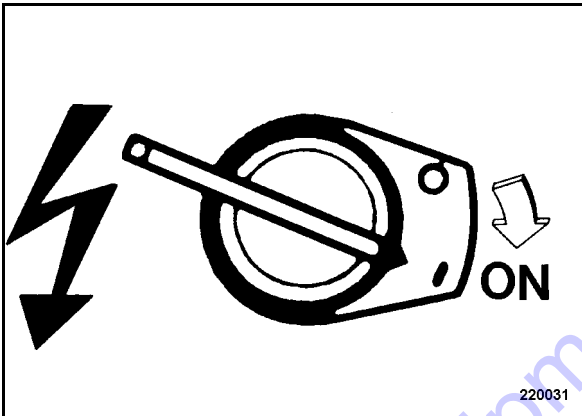

Fig. 14
- Turn the ignition key (Fig. 14) to position "ON".